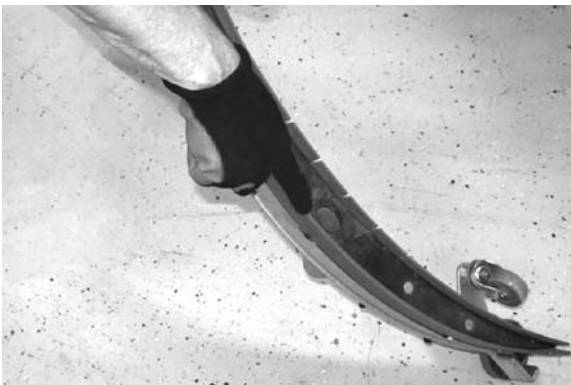

FIG. 44
8. Check the condition of the squeegee blade wiping edge (Figure 44). Rotate blade if worn. (See SQUEEGEE BLADE REPLACEMENT)